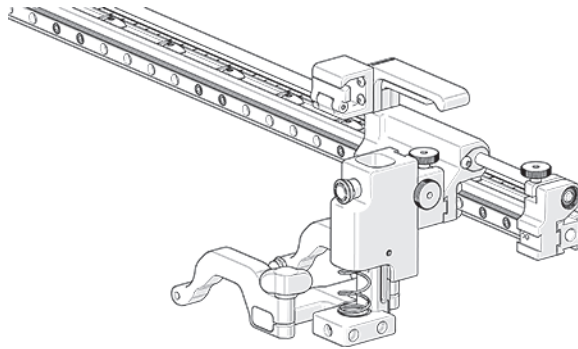

Figure 3-26 Lowered toward scan surface
2. Slowly lower the probe holder towards the scan surface (see Figure 3-26 on page 55).